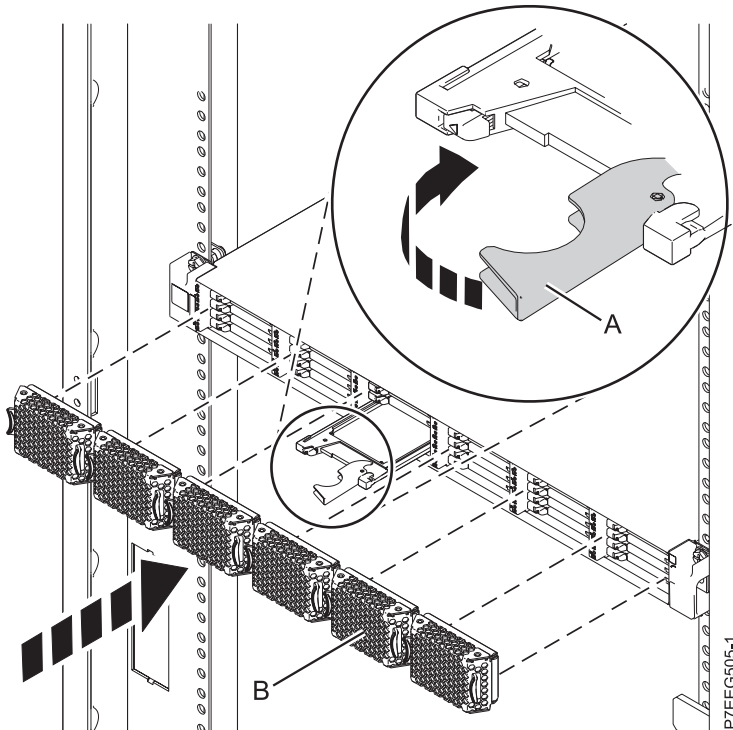

Figure 44. Replacing a solid-state drive in the EDR1 PCIe storage enclosure.
- Rotate the handle (A) to the locked position, as shown in Figure 44.
- Install the bezel (B).